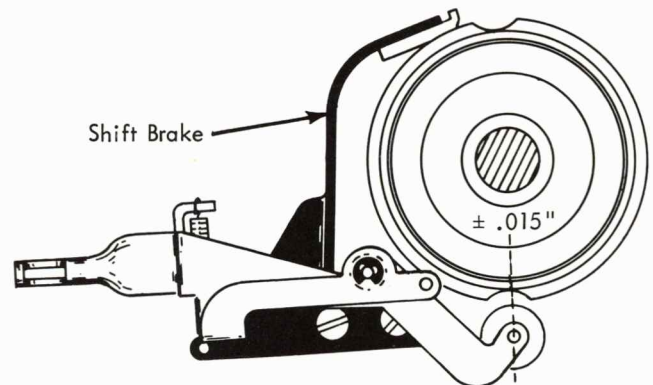

FIGURE 31. Shift Cam Brake Adjustment
4. Shift Cam Brake (Fig. 31) - The shift cam brake shall be so adjusted, that the shift cam will stop in the center of the detent position  $\pm .015$ " when the detent roller is held away from the cam during the shift from upper case to lower case.